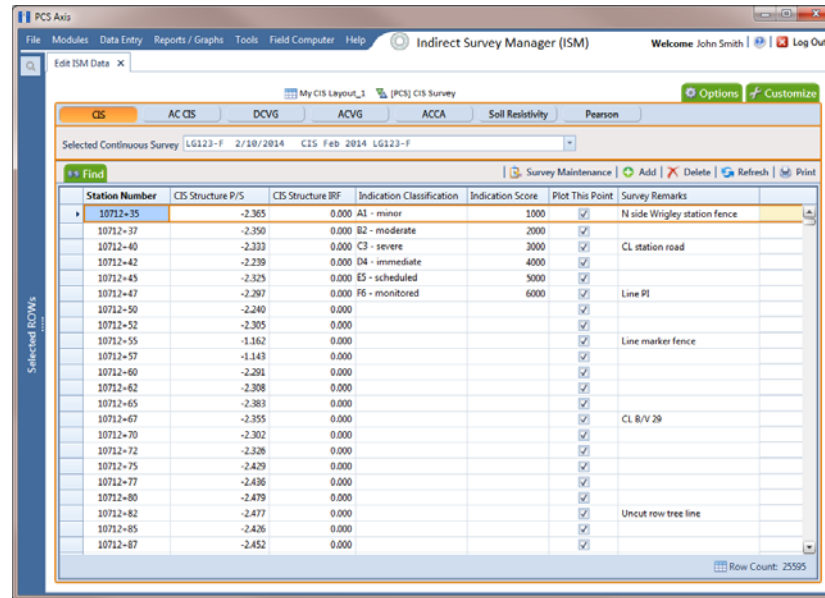

Figure 7-67. Edit ISM Data
- 3 Click **Data Entry > Edit ISM Data** to open the ISM data entry grid. Then click a button labeled with the type of continuous survey data you want to work with, such as the **CIS** button  (Figure 7-67).